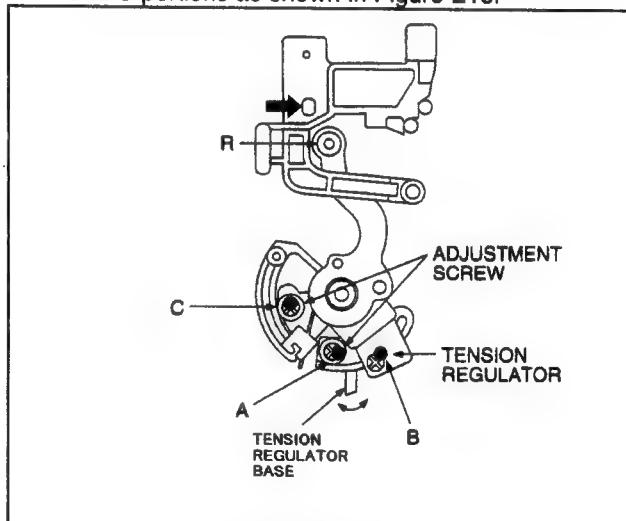

Fig. E18
4. When pressing the R portion of the Tension Post in arrow direction by Dial Tension gauge (VFK1188) until the voltage becomes -0.92V (REV Position) as shown in Figure E18, confirm the tension is in the specification  $18 \pm 2\text{gf}$ .
6. Grew the screw A, B and C after Tension Arm Adjustment. The grew quantity at B portion is half of A and C portions as shown in Figure E18.